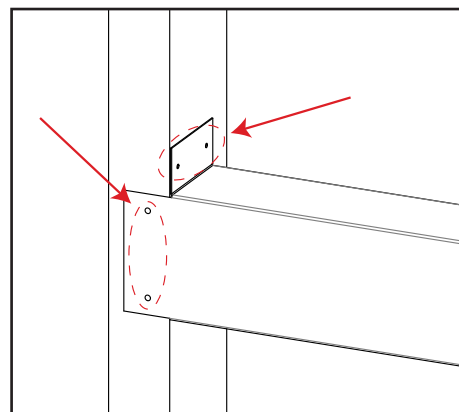

**Figure 20: Steel Stud Placement**
- Place the steel stud onto the top standoffs and slide outwards until both ends make contact with the framing studs (see Figure 20).